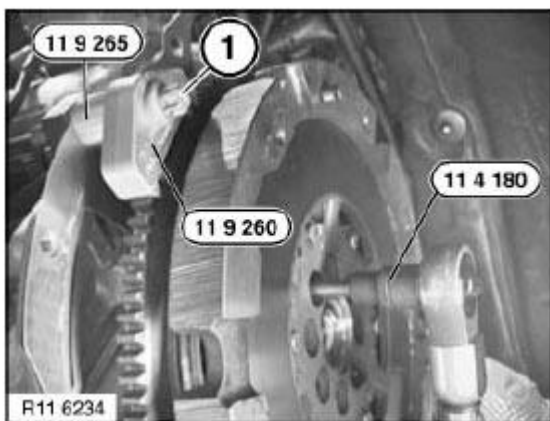

Fig. 130: Identifying Transmission Screw And Special Tools
Secure flywheel with an old transmission screw (1) and special tools 11 9 260 and 11 9 265. See **Fig. 130**.
Release flywheel screws with special tool 11 4 180. See **Fig. 130**.